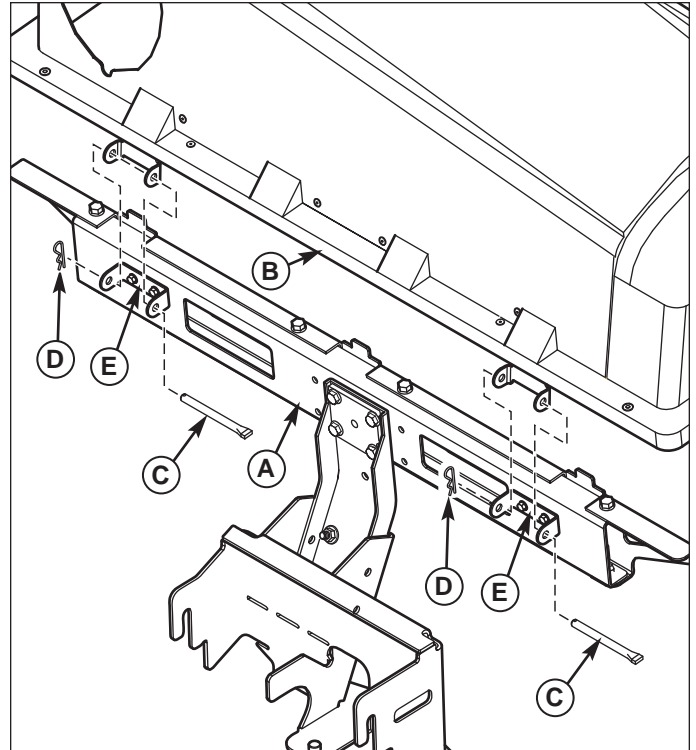

Figure 10. Install Cover Assembly
1. Attach cover assembly (B, Figure 10) to bag support bracket (A) using hinge pivots (E). Secure cover using cover hinge pins (C) and hair pins (D) as shown.
2. Remove hair pin clips (D) and pins (C). Remove cover (B). To prevent lost parts replace pins (C) and hair pins (D) see Figure 10.